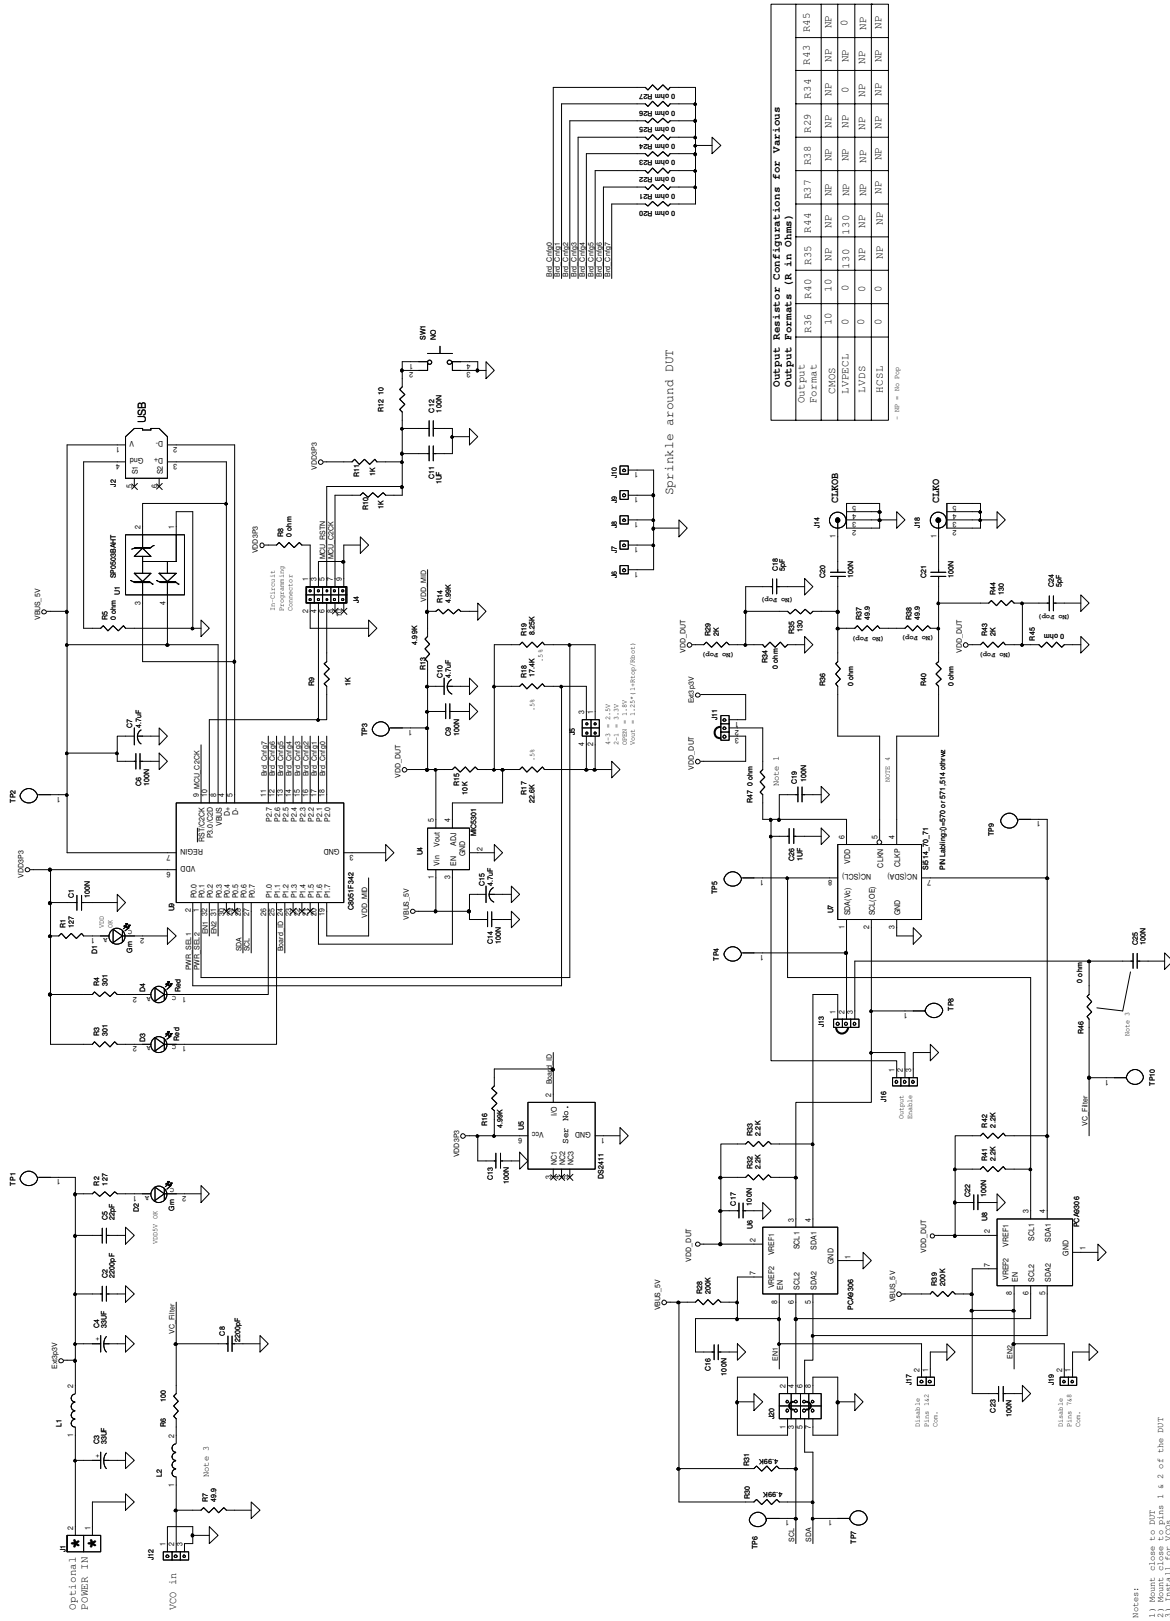

Figure 4. Si5xx-PROG-EVB (Universal I²C XON/CXO)
- Updated Figure 4 on page 11 (schematic).